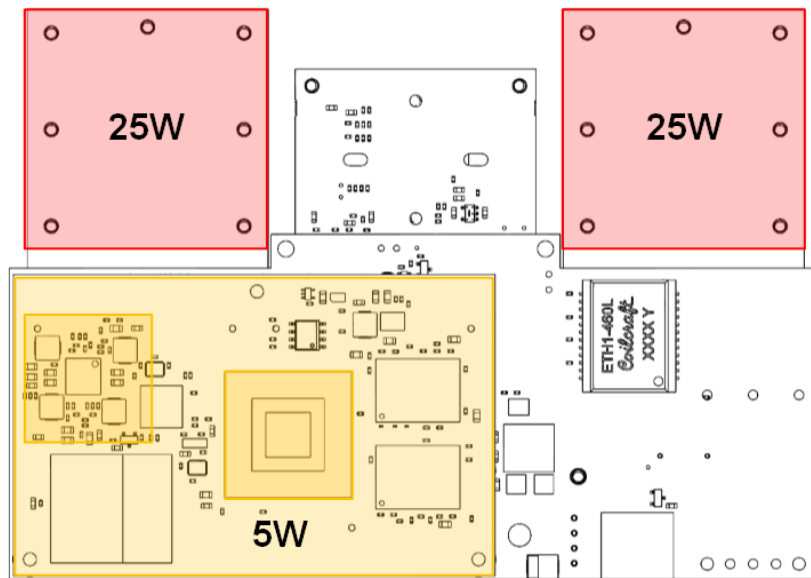

Figure 4-1 Hot Spots of the Sentis ToF - P510 (Bottom View)
- LIM modules: each LIM module produces up to 25W of dissipation power that must be cooled mounting a heatsink/enclosure and a gap pad on the bottom of the module (red areas in Figure 4-1).
- CM-i.MX6Q: the processor module produces up to 5W of dissipation power. The main heat sources are the i.MX6Q processor (left dark region in orange area in Figure 4-1) and the PMIC (right dark region in orange area in Figure 4-1).